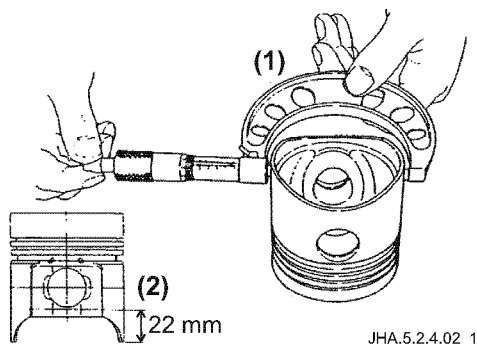

Figure 5-46
2. Measure the outside diameter (Figure 5-46, (1)) of the piston 22 mm (0.866 in.) above the piston skirt at a right angle from the piston pin (Figure 5-46, (2)).